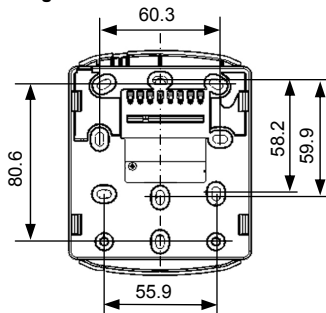
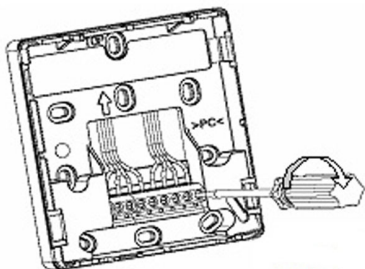

Fig. 2 Installation Dimensions
Fig. 3 Connecting Wires to Terminal Connector
- (1) Mark four holes as shown in Fig. 2.
- (2) Drill holes of appropriate diameter for wall plugs.
- (3) Remove the cover from the base and
- (4) Attach base with screws of appropriate diameter.
- (5) Fasten the base to a junction box or other support.
- (6) Feed the power and signal wires through the rectangular opening in the base.
- (7) Connect the wires to the terminal connector located in the base, as indicated in Fig. 3.